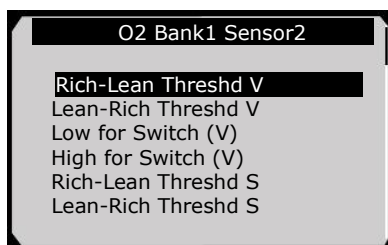

Figure 5.26
- 4) View test results of selected O2 sensor. (Figure 5.26)